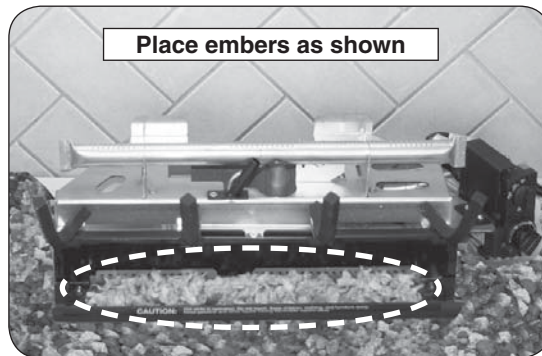

Fig. 18-2 Place glowing embers
1. Place the glowing embers evenly over the entire surface of the ember burner as shown in Fig. 18-2. **Break up any clumps that may have developed during shipment. Store unused embers for later use/replacement.**